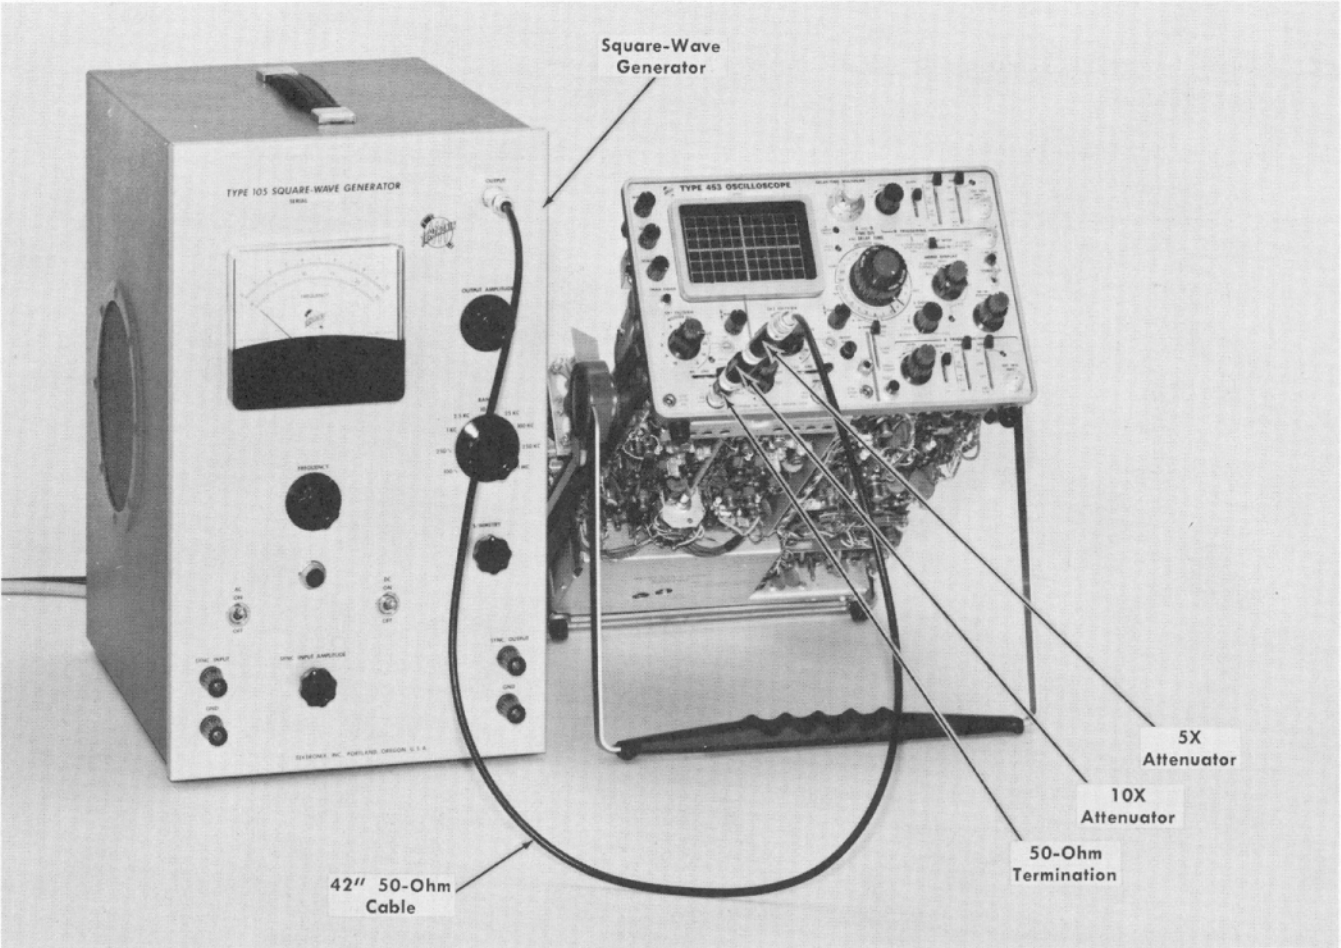

Fig. 6-26. Test equipment setup for step 23.
23. Adjust High-Frequency Compensation ①
- Test equipment setup is shown in Fig. 6-26.